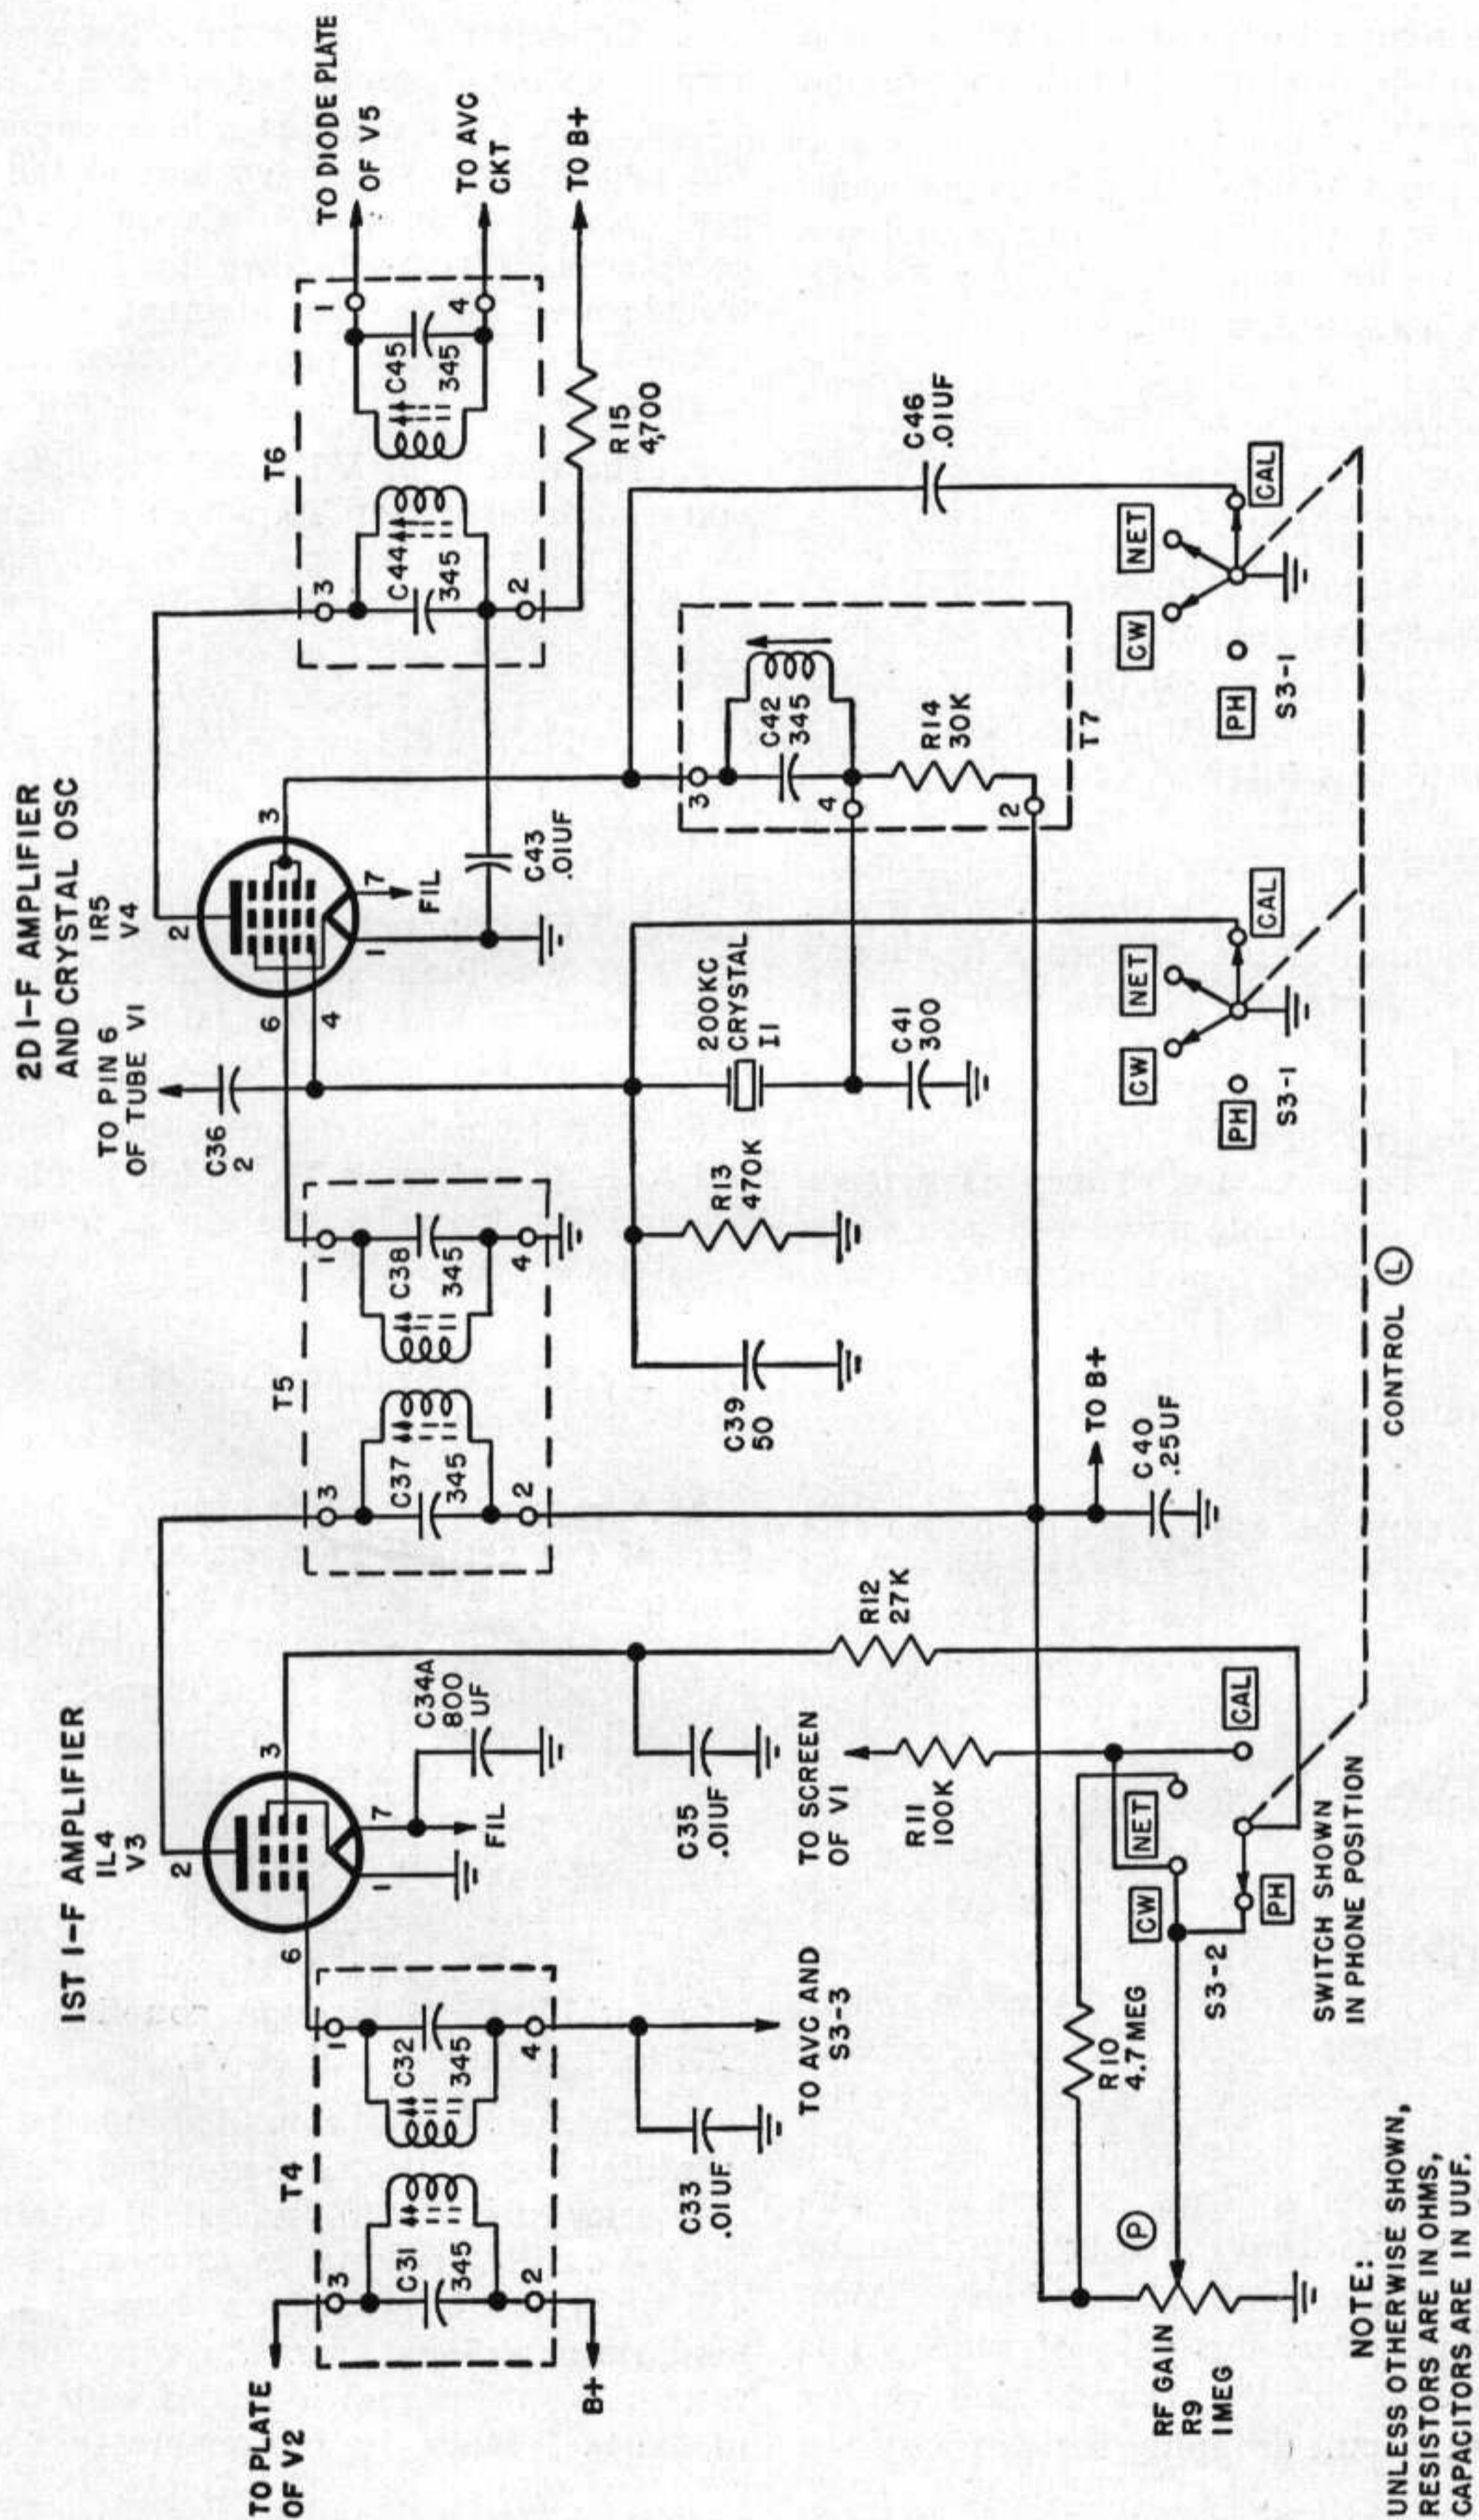

Figure 59. I-f amplifiers, simplified schematic.
g. The h-f oscillator is tuned by N TUNING capacitor C7C so that it is always 456 kc higher in frequency than the signal frequency. Thus, when the received signal from the r-f amplifier is applied to grid 3, pin 6 of tube V2, the two frequencies will beat together, forming sum and difference frequencies. The tuned primary of i-f transformer T4 in the plate of the mixer section is resonant at the difference frequency of 456 kc and, therefore, allows only this frequency to continue on to the first i-f amplifier V3 (fig. 59). The primary and secondary of i-f transformer T4 are shunted by capacitors C31 and C32, respectively. These capacitors, combined with adjustable powdered iron cores inserted in the primary and secondary coils, tune the transformer to 456 kc.
82. I-F Amplifiers V3 and V4 (fig. 59)